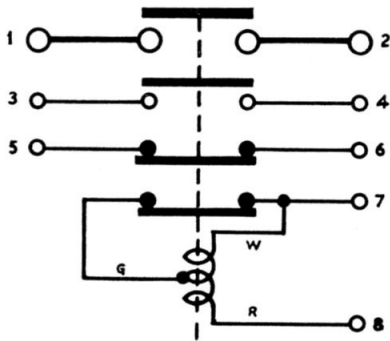

Fig. 2. Circuit diagram
3. A circuit diagram of the contactor is given in fig. 2. All terminals are suitable for crimped cable lugs of the Pren and Prenal